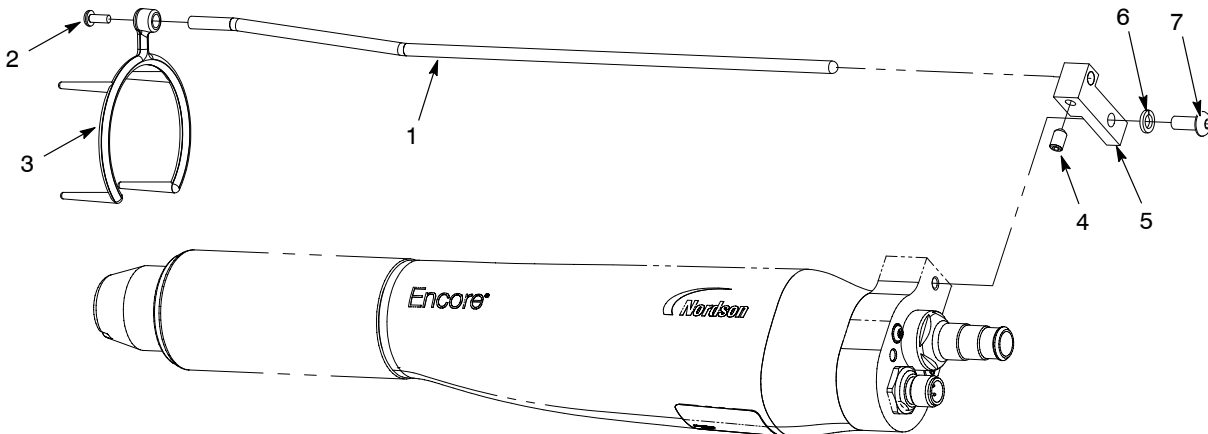

Figure 1 Ion Collector Installation
1. See Figure 1. Install the mounting block (5) on the gun with the M5 lockwasher and screw (6, 7).
2. Insert the collector rod (1) into the block and secure it with the M5 x 8 set screw (4).
3. Slide the multi-point tip (3) onto the nozzle nut and attach it to the collector rod with the M3 screw (2).
See Figure 1 for item numbers.